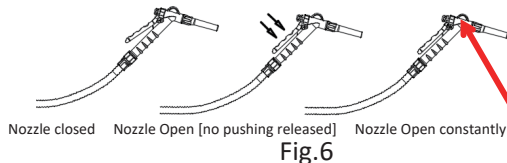

Fig.6
2. Open the nozzle, push the handle, and rotate the stopper. Keep the nozzle open as shown in Fig.6